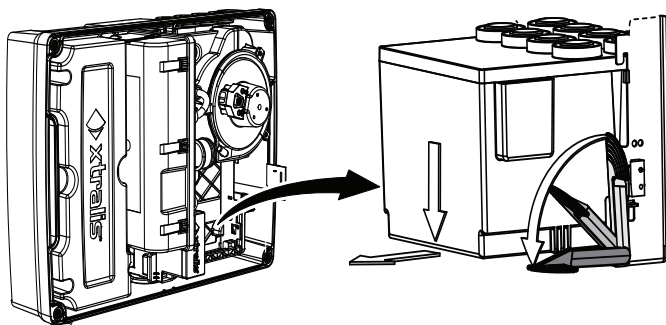

Figure 7-5: Intelligent Filter Removal
4. Remove the Intelligent Filter (Figure 7-5). Refer to Section 7.3 on page 55 for further information.